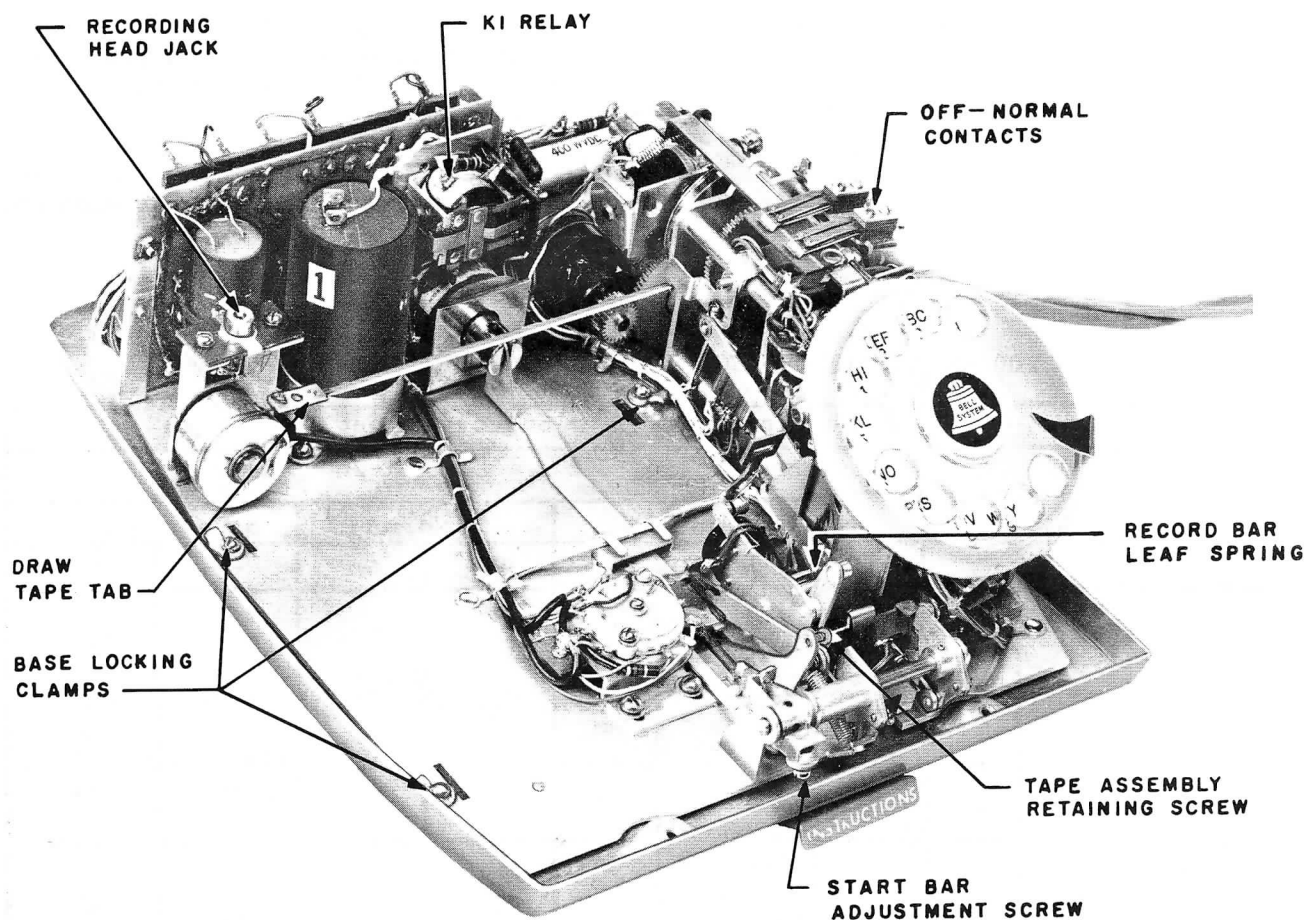
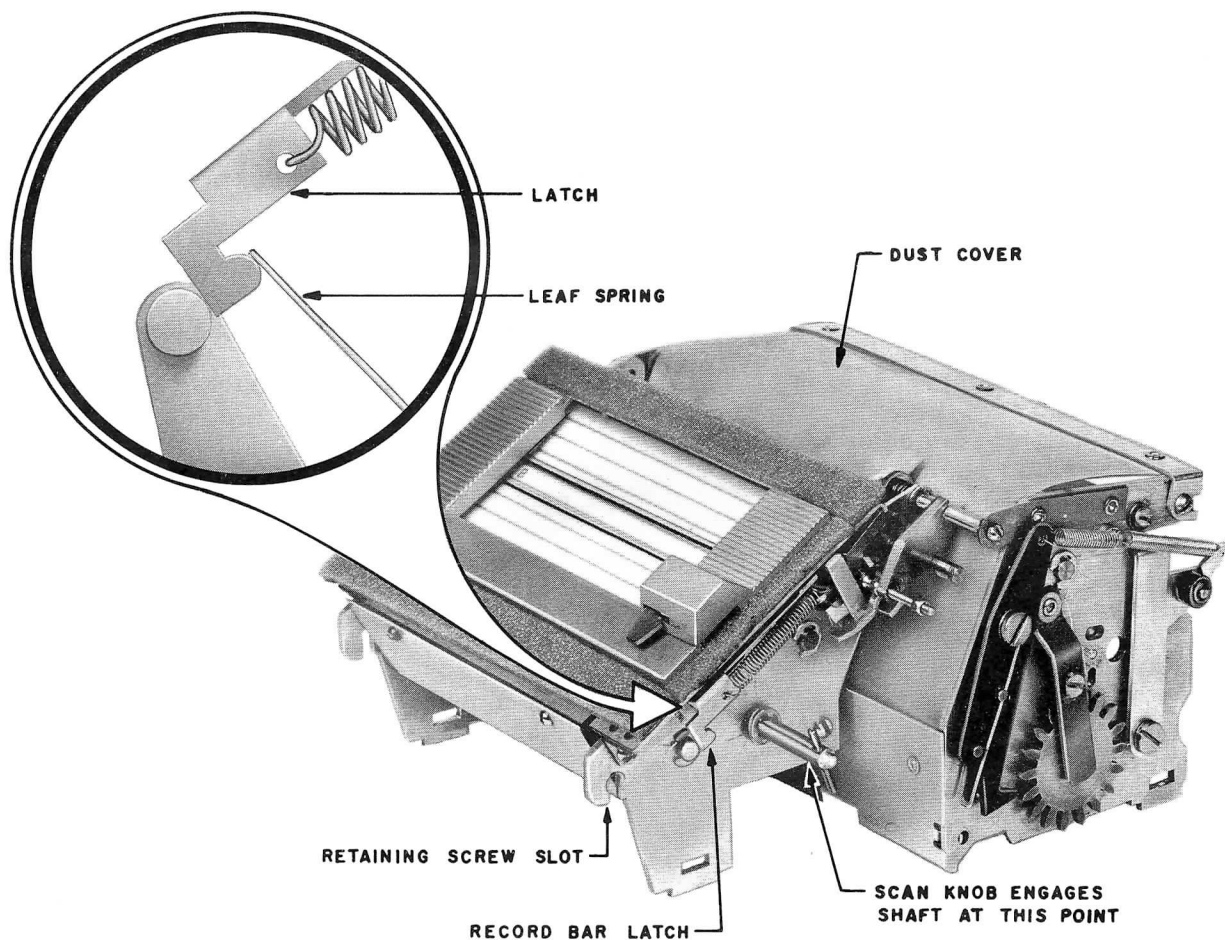

Fig. 7 - KS-16844 Rapidial, List 6 Tape Assembly Removed (Front View)
Fig. 9 - List 6 Tape Assembly, Front View
- Burnish K1 relay contacts (Fig. 7 and 8).
(2) Release three base-locking clamps by turning screws 1/4 turn in counter-clockwise direction (Fig. 7, 8, and 10).
(3) Loosen retaining screw on front right side of tape assembly (Fig. 7, 8, and 9).
(4) Grasp tape assembly with right hand on either side of writing tape window frame. Lift slowly, carefully disengaging recording head carriage pin from hole in draw tape tab (Fig. 7, 8, and 10).
(1) Make certain start bar mechanism is not operated. If operated, plug in power cord momentarily until Rapidial has recycled.
(2) Grasp tape assembly as explained in 6.04. Carefully lower tape assembly into position, making certain recording head carriage pin properly engages hole in draw tape tab (Fig. 7, 8, and 10).
(3) Lift front of tape assembly sufficiently to allow record bar leaf spring to clear record bar latch. Hold spring up with 3-1/2 inch screwdriver and lower front of tape assembly into position, allowing record bar leaf spring to rest upon record bar latch (Fig. 7, 8, and 9).
(4) Grasp in right hand and position tape assembly over unit.
(5) Place wiring from motor around the front and left side of the cartridge assembly.
(6) Lower tape assembly onto base, carefully engaging recording head pin in hole in draw tape tab.
- (7) Line up tape assembly so all four lugs fall in base slots.
- (8) Lift front of tape assembly approximately $\frac{3}{4}$ inch and push record bar leaf spring back (with 3- $\frac{1}{2}$ inch screwdriver) about $\frac{1}{2}$ inch.
- (9) Lower tape assembly, allowing spring to rest on latch (Fig. 9).
- (10) Be sure all lugs on tape assembly are engaged with base slots.
- (11) Secure base locking clamps (Fig. 7).
- (12) Secure tape assembly retaining screw.